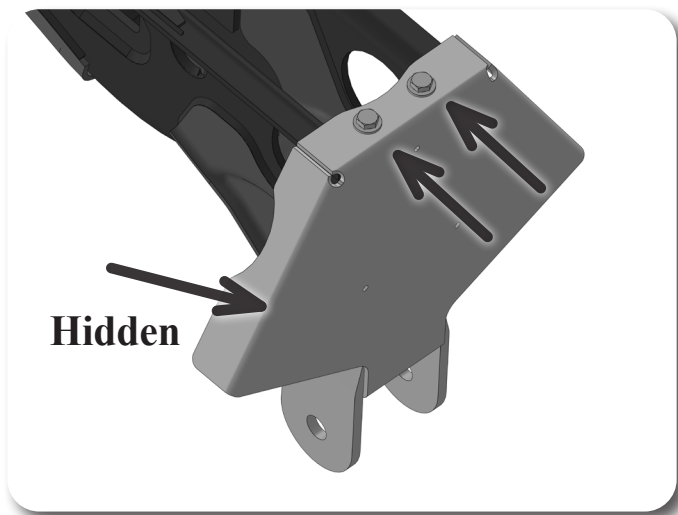

Figure 49
73. Install the provided torsion bar cross member bracket on the torsion bar cross member. Fasten with the factory bolt and the provided 1/4" x 1" bolt, nut and washers through the bottom of the new bracket into the drilled-out holes in the cross member. **Figure 49** Torque the 1/4" hardware to 12 ft-lbs and factory hardware to 90 ft-lbs.